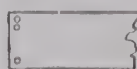

Fig. 1
The slat window blind is especially constructed to admit a circulation of air and at the same time keep out the sun's rays. A cloth shade or awning will hold the heated air in the upper part, as well as water on the top where the cloth sags. The slat blind or awning does not have these objections. The blind is constructed from 12 lath or slats. Each piece, as represented at A, Fig. 1, has three $\frac{3}{16}$ -in. holes drilled in each end, one (B) $\frac{1}{4}$ in. from the top, another (C) just below B and $\frac{1}{2}$ in. from the top, and another $\frac{1}{4}$ in. from the bottom. Run a piece of string through the hole C in one piece and through hole D in the other; knot both ends so the string cannot pull out. Tie